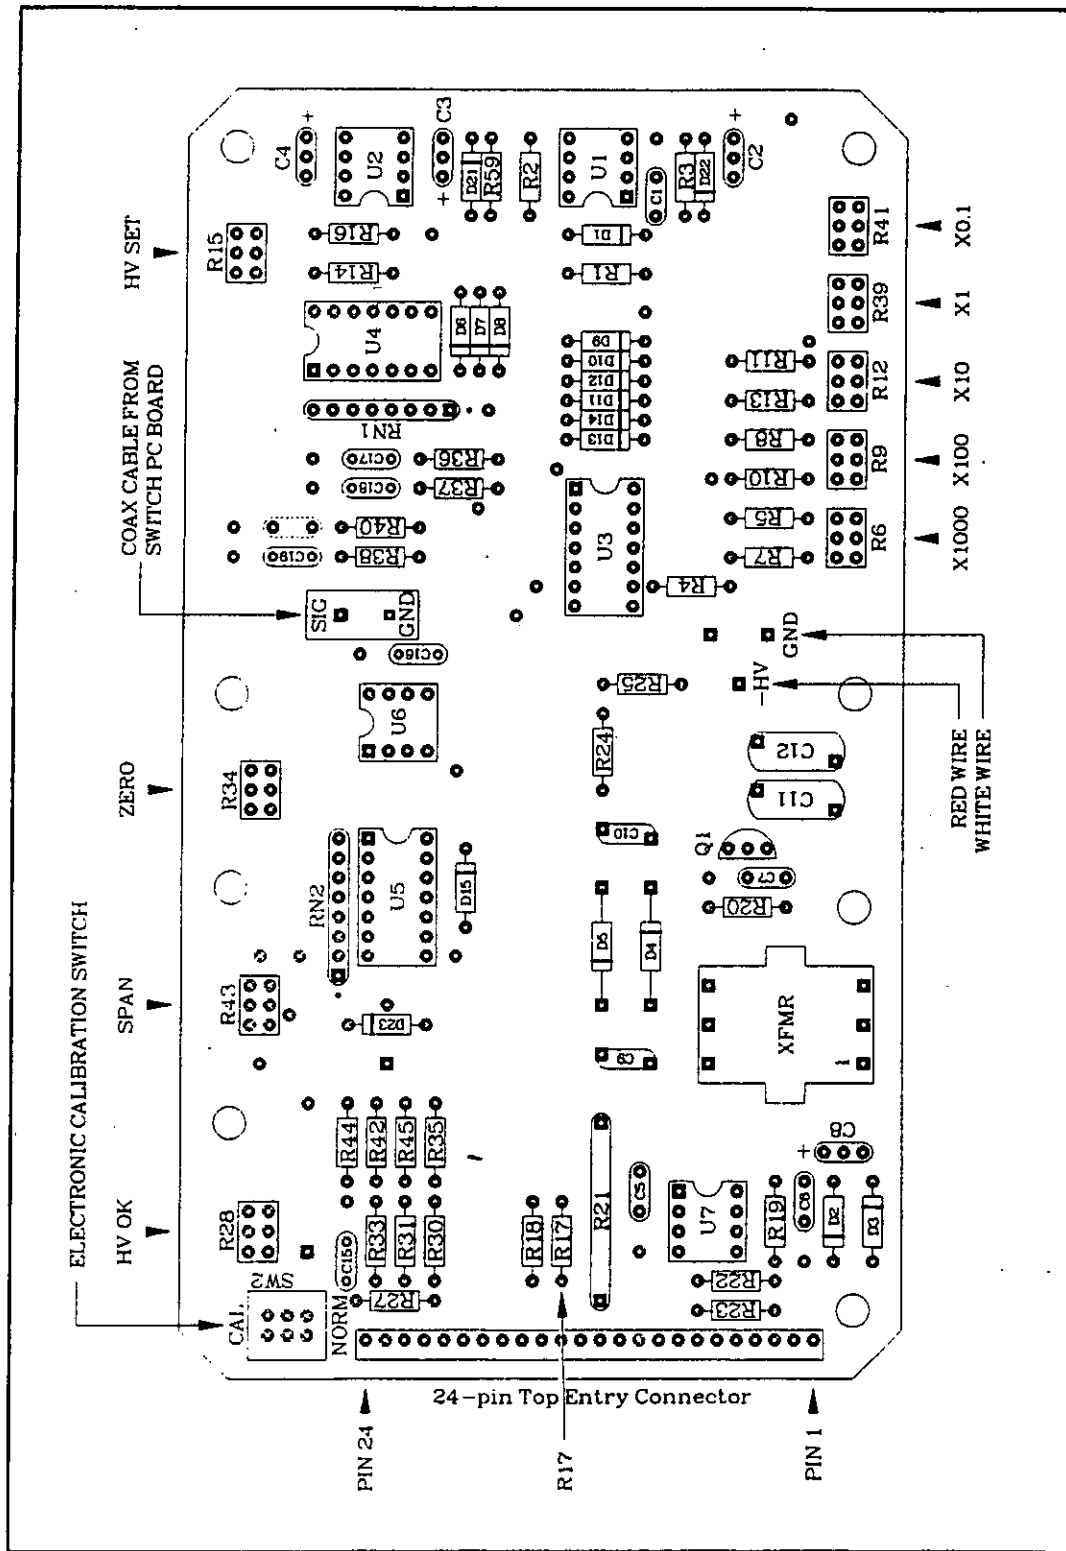

Figure 1
*Note: See Figures 1 and 2 for the location of all Circuit Board components.*
- e. Turn the control switch to the bat. position. Adjust the "SPAN" trim pot (R43) (Figure 1) until the meter reads full scale.
1. Turn the control switch to the X1000 position. Expose the unit to a  $^{137}\text{Cs}$  field of 160 mR/h. Adjust the "X1000" trim pot (R6) (Figure 1) until the meter reads 160,000  $\mu\text{rem/h}$  (1600  $\mu\text{Sv/h}$ ).
The procedure you will use will depend on which of two versions of the Main PC Board is in your instrument. Revision levels "C" and later have a Calibration Switch (SW2) which disables the Anti-saturation Circuit and turns the High Voltage off. See Figure 1 for the location of this switch. If your instrument has this switch, follow the
1. On the Micro Rem, toggle the Calibration Switch (SW 2) on the Main PC Board (Figure 1) to the CAL position. (This will disable the anti-saturation circuit and turn the High Voltage off.)
1. On the Micro Rem, disable the HV supply by connecting a jumper wire between pin 1 (analog ground) and either side of resistor R17 (Figure 1).